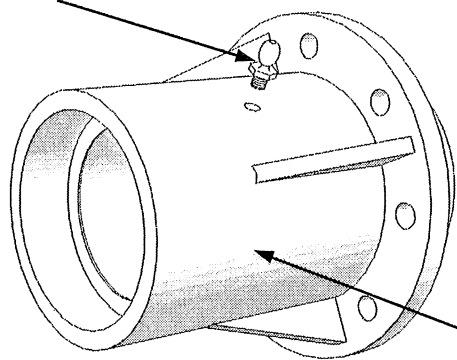

FIG. 1
- Check for loose bolts that fix the blades to the rotor. Check condition of the blades. (see fig. 1).
- Grease the bearings of the rotor shaft holder and the shaft disc holder through the grease nipple located in its respective supports (see fig. 1), after cleaning correctly the grease nipples for better lubrication. Use lithium type grease NLGI 2 .